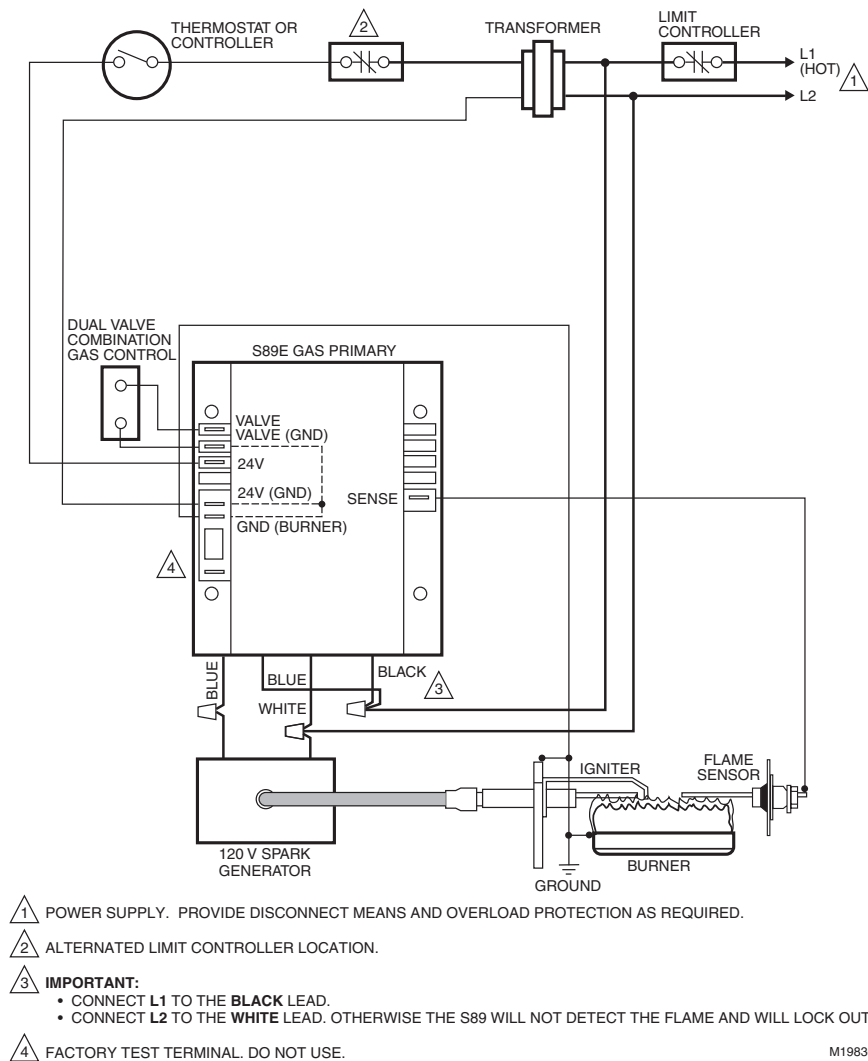

Fig. 2. S89E typical hookup in direct spark control system. See Fig. 8 for control system ladder diagram.
3. Wire system components and S89 as shown in Fig. 2 and 3. Refer to appliance manufacturer instructions for connections to other auxiliary controls.